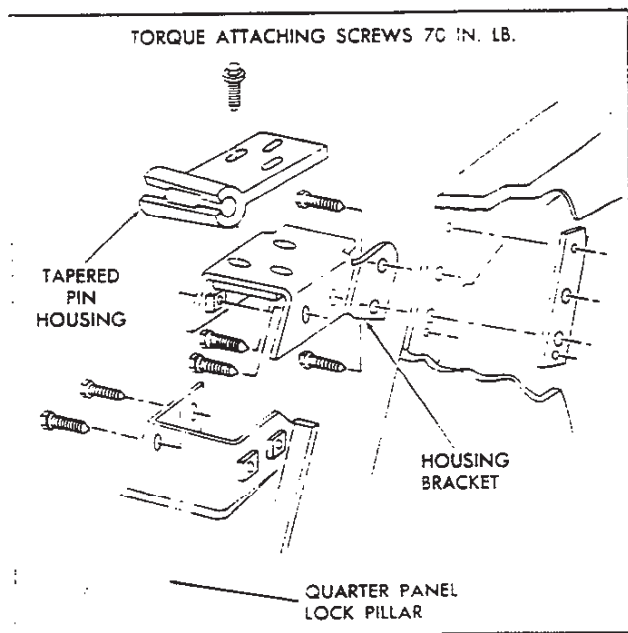

Fig. 19—Door Wedge Pin Housing and Bracket Location
The housing bracket mounted in the quarter panel and lock pillar has six (6) mounting bolts allowing for alignment up and down (fig. 19).